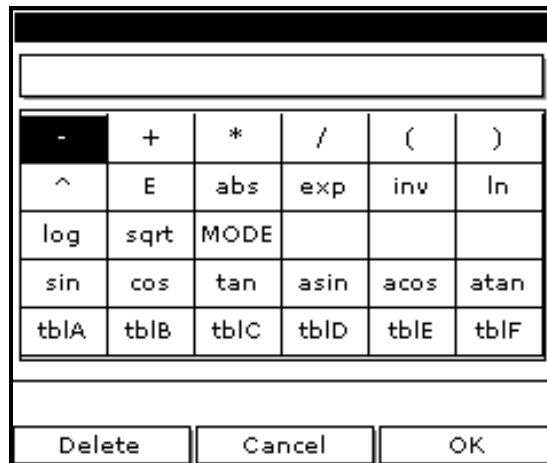

Figure 26: Function Creation Window
1. Use the arrow keys to move to the blank box at the bottom of the screen and press **[ENTER]**. A screen similar to Figure 26 appears.